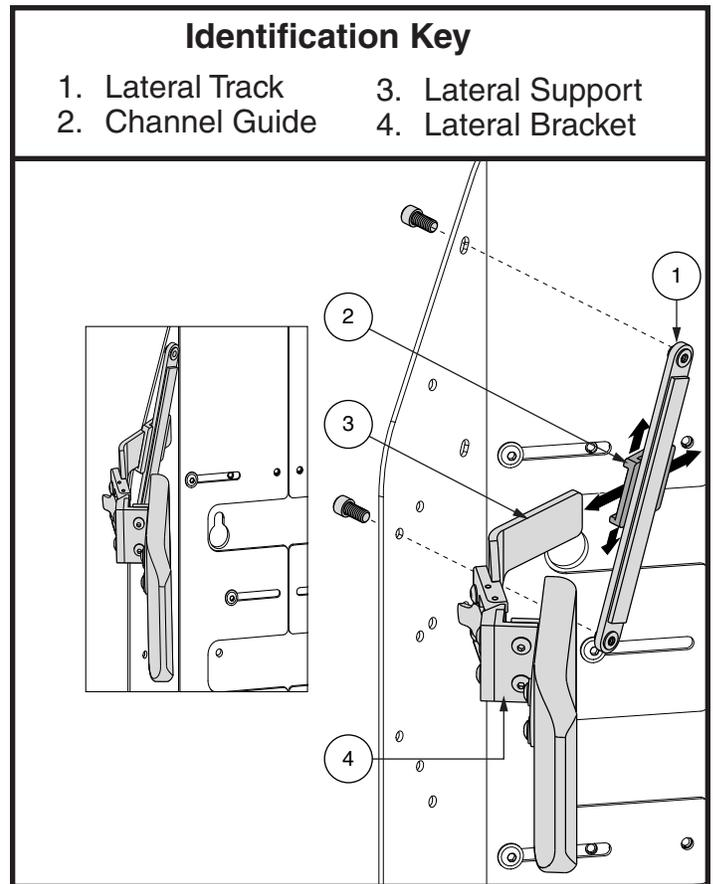

Figure 24. Laterals
2. Slide the lateral support through the channel guide as shown in **figure 24**.
3. Slide the lateral support to the desired height and width. **See figure 24**.
2. Slide the lateral support to the desired height and width. **See figure 24**.